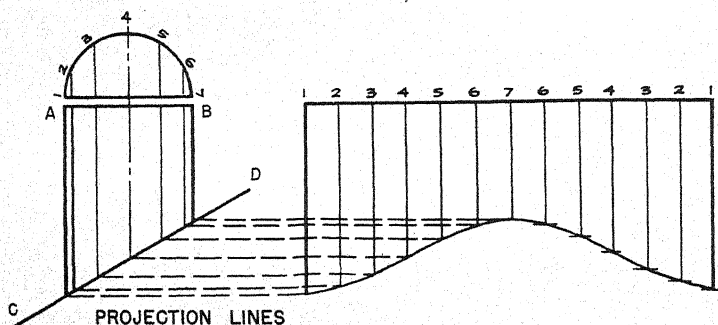

Figure 253. — Transferring from elevation to stretchout to make the pattern.
5. Finally, connect the points at which the arcs have intersected each of the elements, with a curve running from line 1 to the opposite line 1. Smooth out your curved line, add your allowances for seams, and your pattern is complete. If this final line has serious irregularities, you have made a mistake in measurement. Your final stretchout will look exactly like the one made by projection in figure 253.